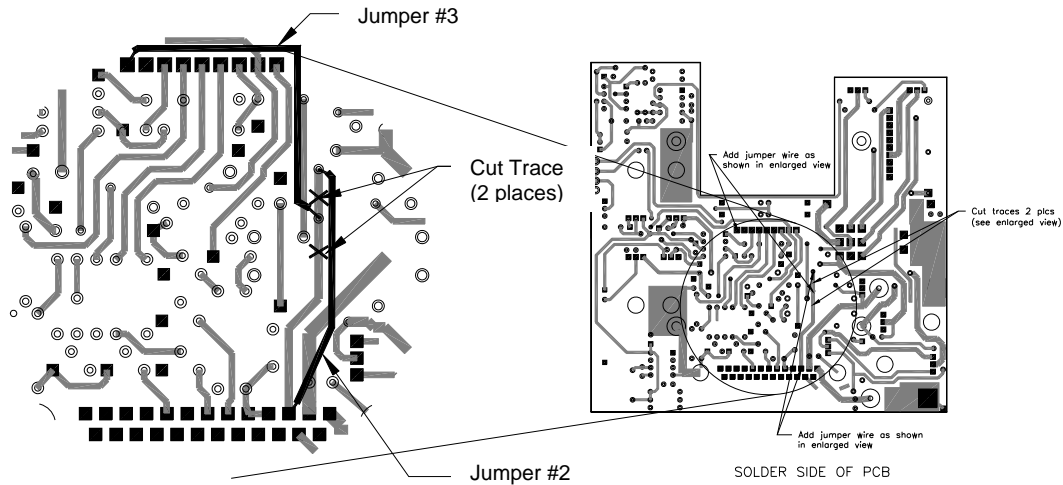

Figure 1.
- H. On the non-component side of the main circuit board assembly locate and cut one circuit trace in two places. Refer to figure 1.
- I. Add jumpers 2 and 3 as shown in figure 1.